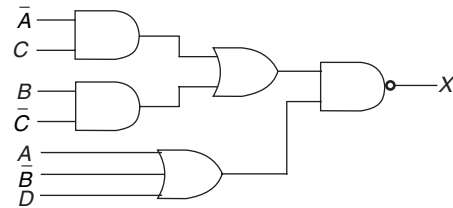

Fig. 5.35 Original Circuit for Problem 5.57.
5.57 Simplify the circuit shown in Fig. 5.35 down to its SOP form; then draw the logic circuit of the simplified form using a 74LS54 AOI gate.